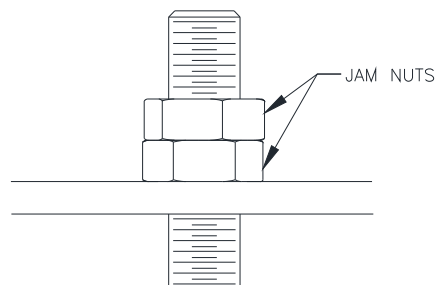

Fig 12b – Jam Nuts
- 26) Secure the cables with the jam nuts provided as shown in **Fig 12b**.